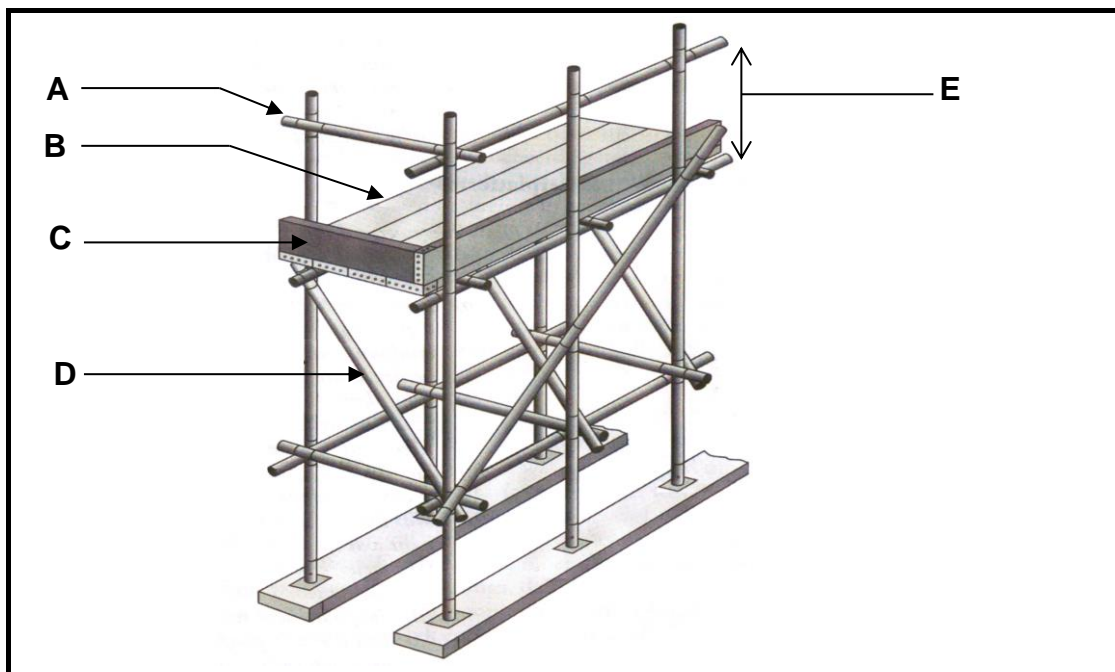

FIGURE 1.1
1.1 Answer the following questions regarding the scaffolding in FIGURE 1.1.